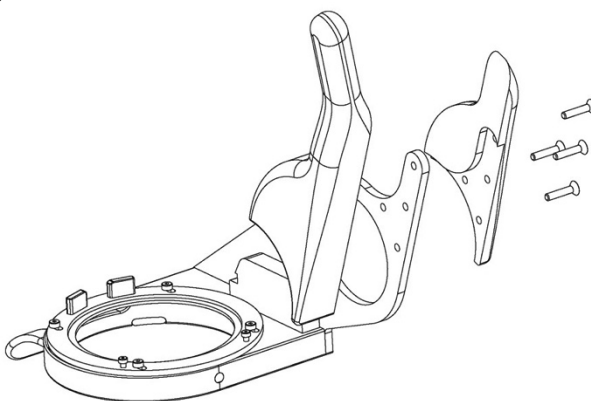

Figure 3: Handle Assembly
6. Take the two-piece metal handle out of the box. Remove the fasteners that hold the two pieces together. Align the two handle parts over the swing arm as shown in Figure 3. Use the fasteners that originally held the handle pieces together to hold the handle pieces to the swing arm.